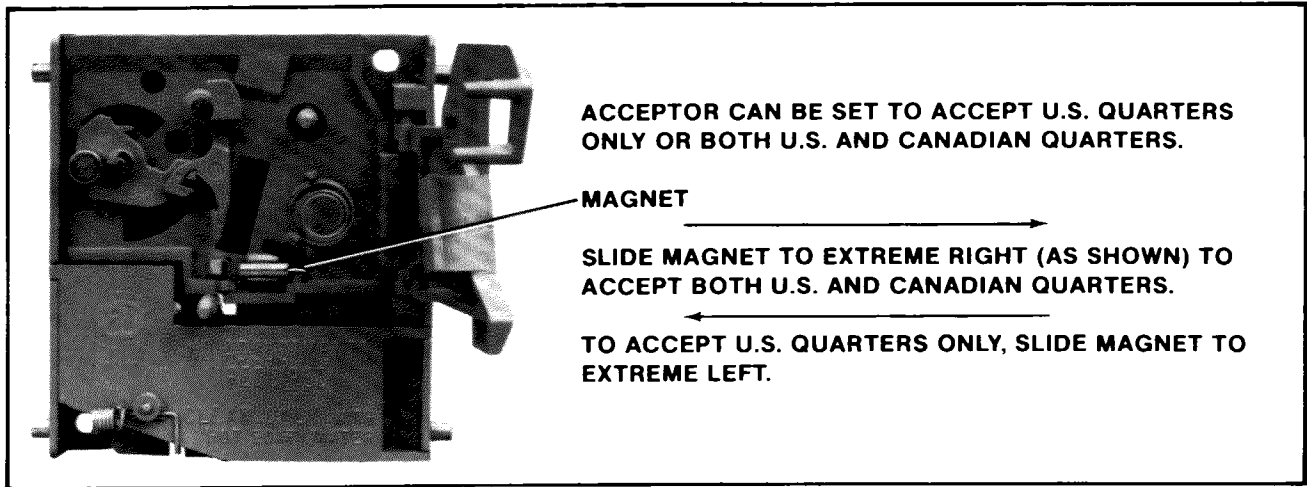

**Figure 28 Opening the plastic coin acceptor**
4. Squeeze the two pins indicated in Figure 28 together to open the mechanism and break it down into its three basic parts.